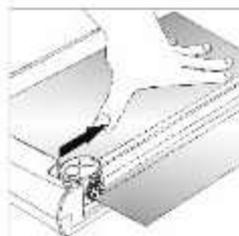

Fig. 2
2.5 To complete the cut, press the cutting head down and slide it along the guide rail to the other side, refer to Fig. 2.